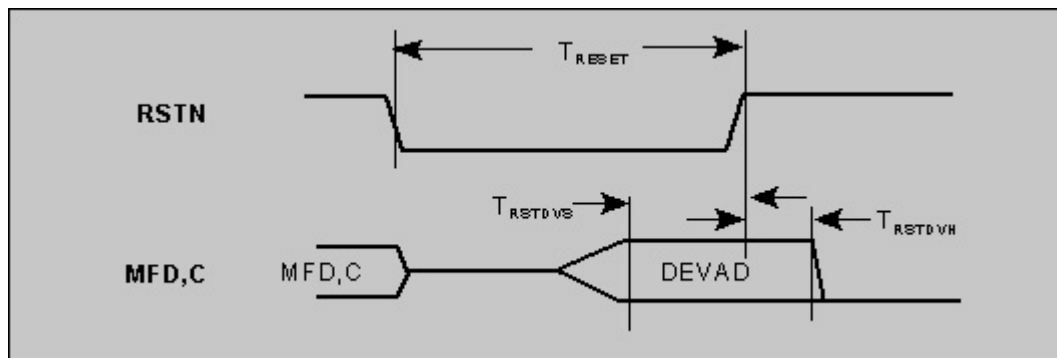

FIGURE 6-9. SETTING DEVAD AT END OF RESET
**TABLE 6-13. RESET AND DEVD FROM MFD, MFC TIMING** (see Figure 6-9)